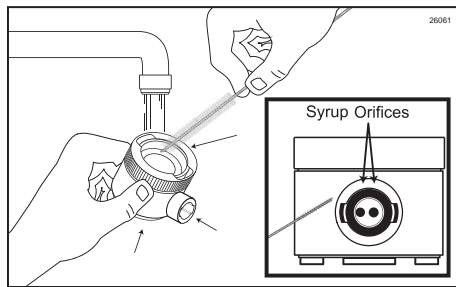

Figure 32
4. Brush and clean all exposed surfaces of the Injector Head with detergent water, then rinse thoroughly. Use a small brush to ensure that the syrup orifices are clear of any residual syrup. (See Figure 32.)